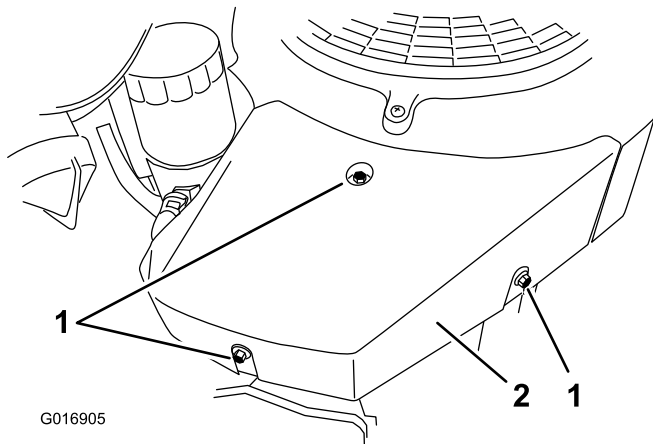

Figure 77
3. Remove the right hand shroud by removing the top mounting screw and loosen the two side screws (Figure 77).
4. Remove the top mounting screw and loosen the two side screws on the left hand shroud (Figure 77).